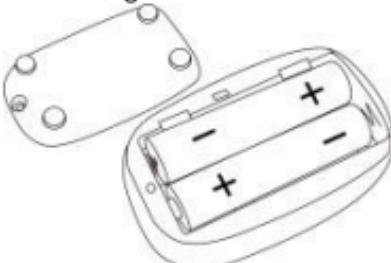

Fig. 3 Batteries installation
Step 1. Refer to Figure 3 and insert the two AAA size batteries properly in the right direction.